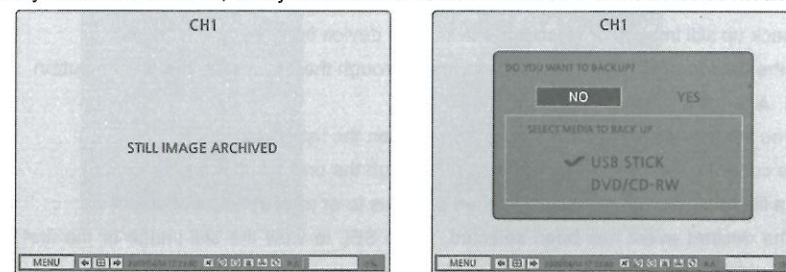

Figure 7.1.1. Still Image Archiving and Backup Screen
1. When you press BACKUP button, the archiving screen will display as Figure 7.1.1.